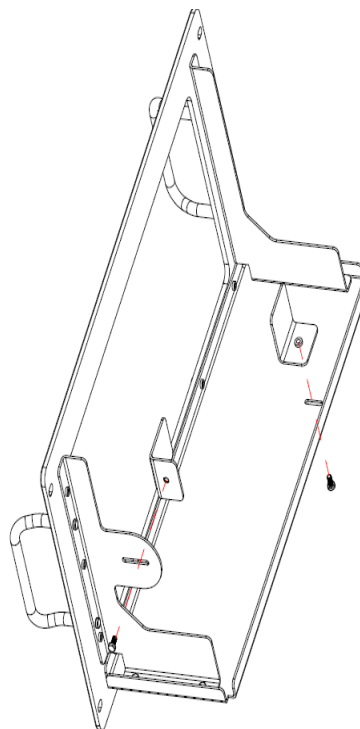

Figure 3
4.固定仪器：用 2 个固定件把仪器压紧，用 2pcs M4*10 的螺钉来固定，见图 3；
Fixed instrument: press the instrument with two fixed parts, and fix it with 2pcs M4*10 screw, as shown in figure 3;